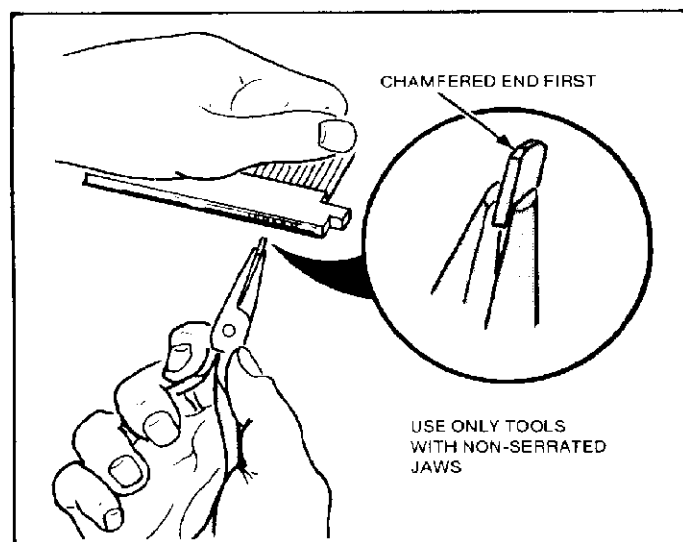

Figure 3
- Insert polarizing key, chamfered end first, into desired connector cavity. Refer to Figure 3. Non-serrated tweezers or small needlenose pliers may be used for insertion and extraction.
- To remove key, pull it from the connector using non-serrated tweezers or small needlenose pliers. Refer to Figure 3.
- Insert polarizing key into connector. Non-serrated tweezers or small needlenose pliers may be used for insertion and extraction. Refer to Figure 3.